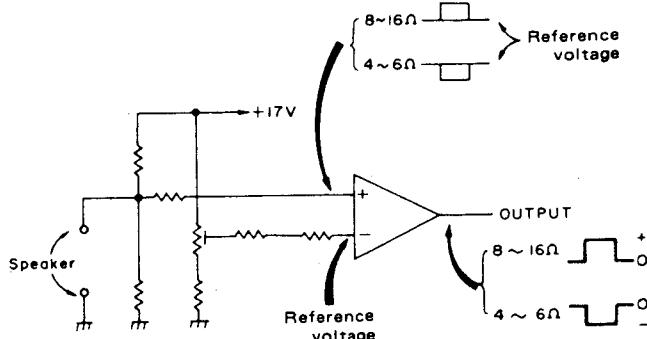

Fig. 5
While the relay (RLY302) is OFF, the speaker is in contact with the voltage comparing circuit. (Fig. 5) The reference voltage is applied to the negative input terminal of operation amplifier (IC301), and the voltage of positive input terminal varies depending on the speaker impedance as shown in Fig. 5. The alteration of voltage is directly related with the output of operation amplifier. Usually the unit is adjusted so that the output voltage is zero with  $6\Omega$  speaker connected, and the output voltage of operation amplifier becomes negative with  $4\Omega$  speaker connected, and the output voltage becomes positive with  $8\Omega$  speaker connected. Only when the voltage is negative, Q306 and RLY 302 turn ON, switching the secondary side tap voltage of power transformer to 28.7V.
- (3) Insert claw **C** of bottom board into claw hole **C** of rear panel. [See Fig. 5.]
- (4) Secure it with 6 setscrews.
[Fig. 5]